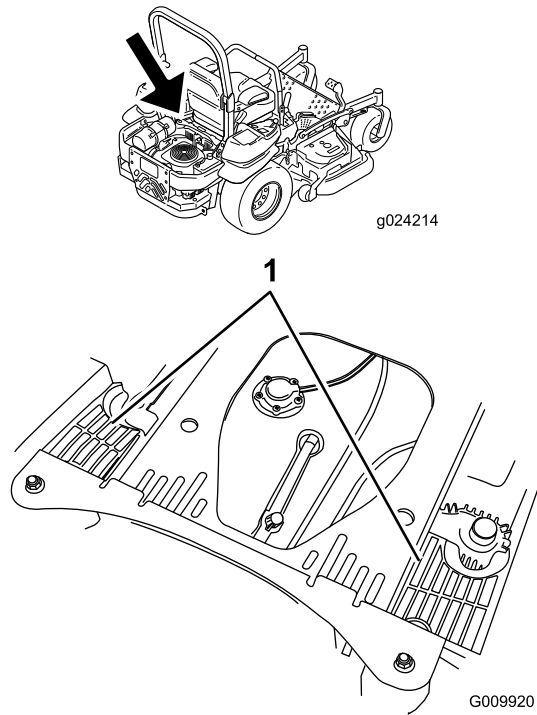

Figure 74
4. Clean the debris and grass from the hydraulic unit shrouds (Figure 74).